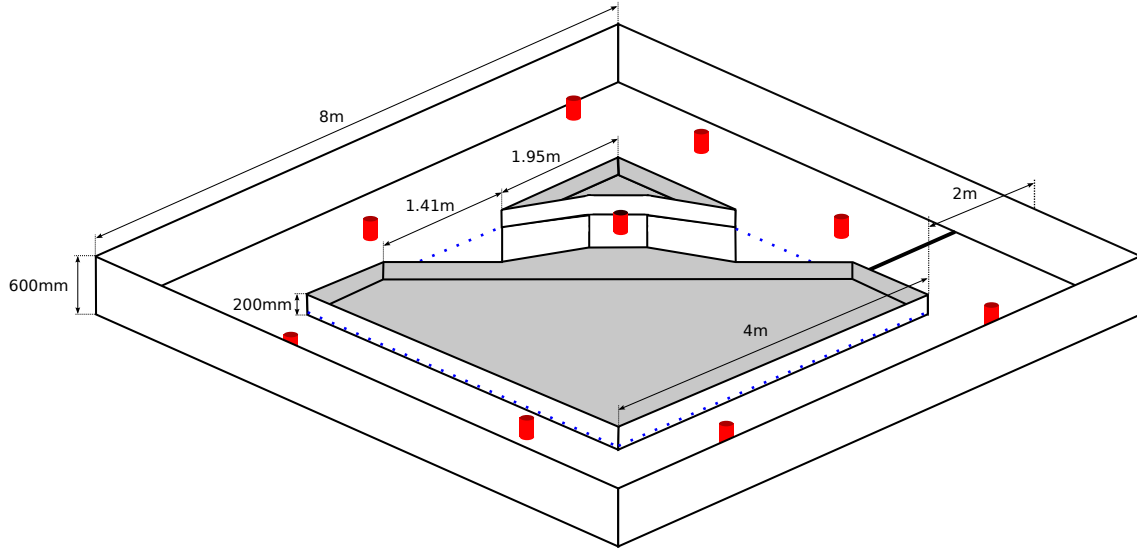

Figure 1: An overview of the arena, including baked bean tin tokens.
- 3.1.1 The match arena floor, overall, is an $8m \times 8m$ square, as shown in Figure 1. The tolerance of these two dimensions is $\pm 0.25m$.
- 3.1.7 No guarantee is offered of the colour of the area inside the internal wall (the section greyed out in Figure 1). We can guarantee, however, that anything visible within the arena above $200mm$ and below $600mm$ will be either white or black (as those colours are not visible to the vision system).